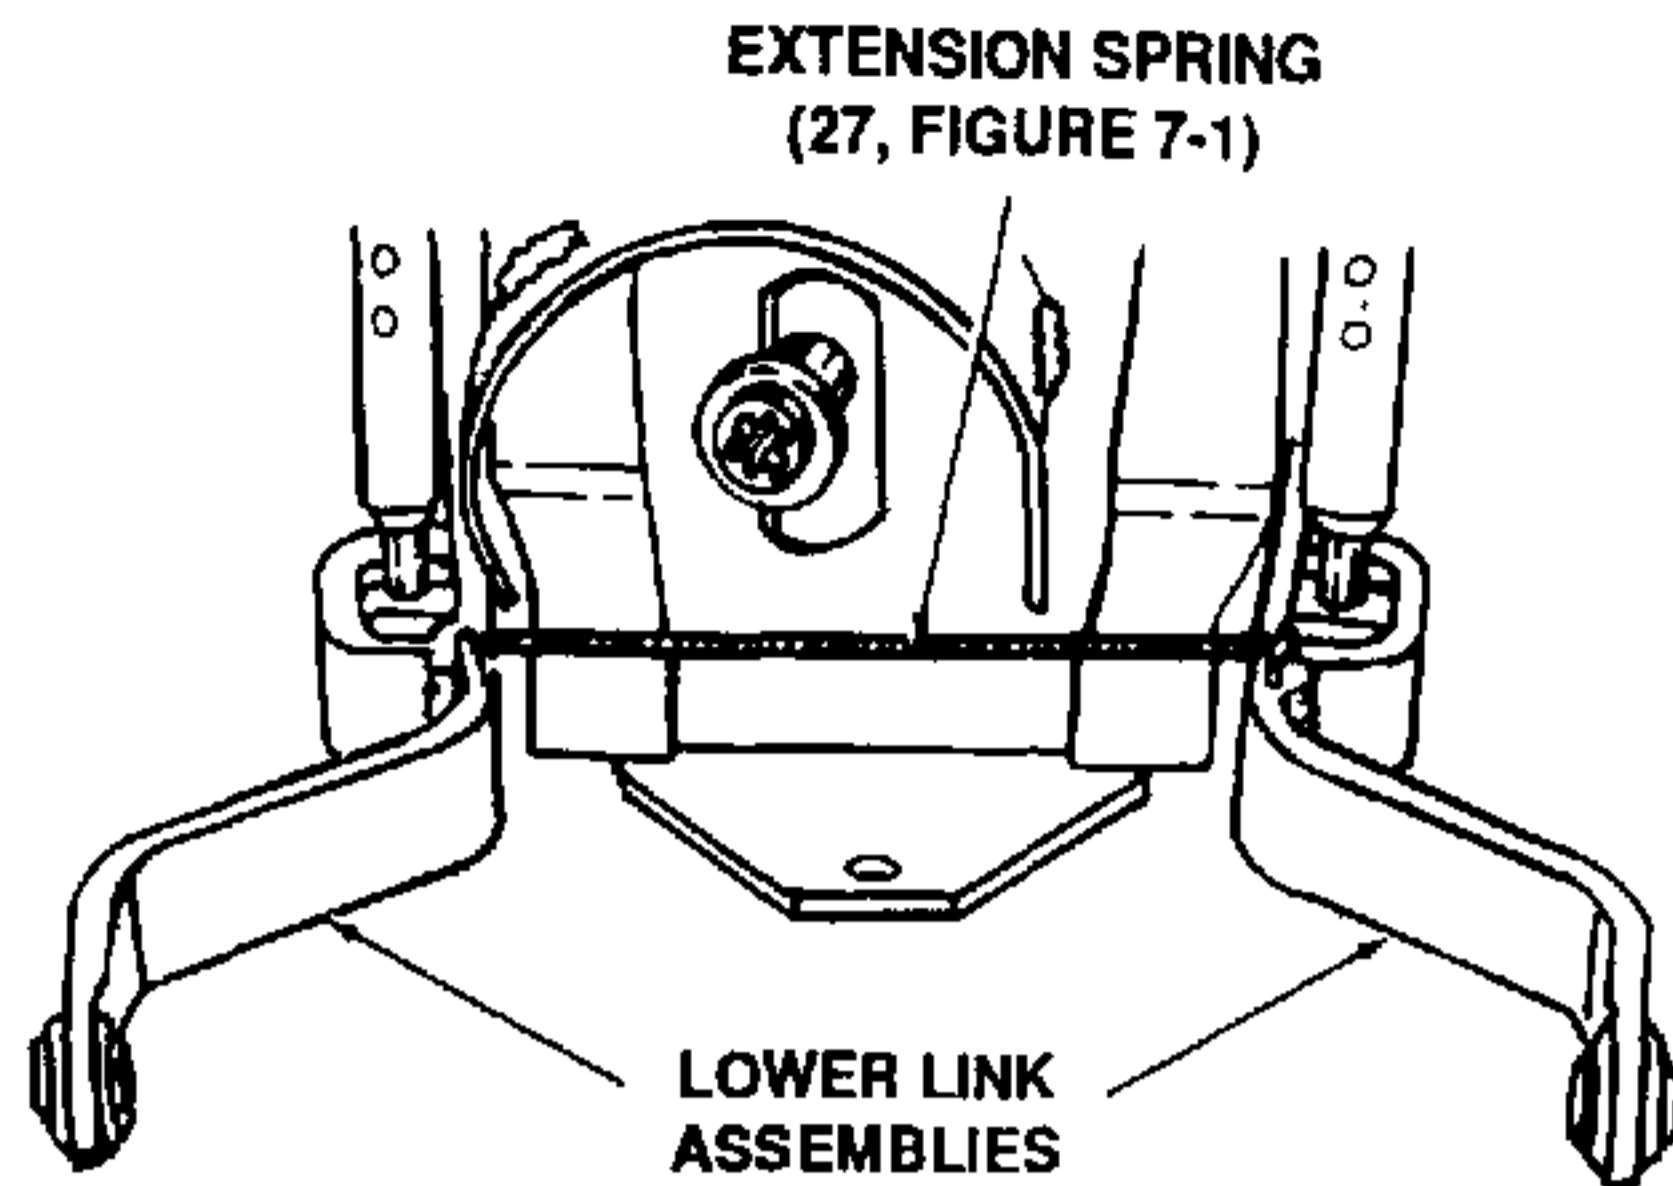

Figure 7-31. Securing Extension Spring.
b. Install 5/8 x 2-3/8-inch long clevis pin (20) and large hairpin cotter (22) on end of upper link assembly.
18. Secure extension spring (27) to each lower link. Refer to Figure 7-31.